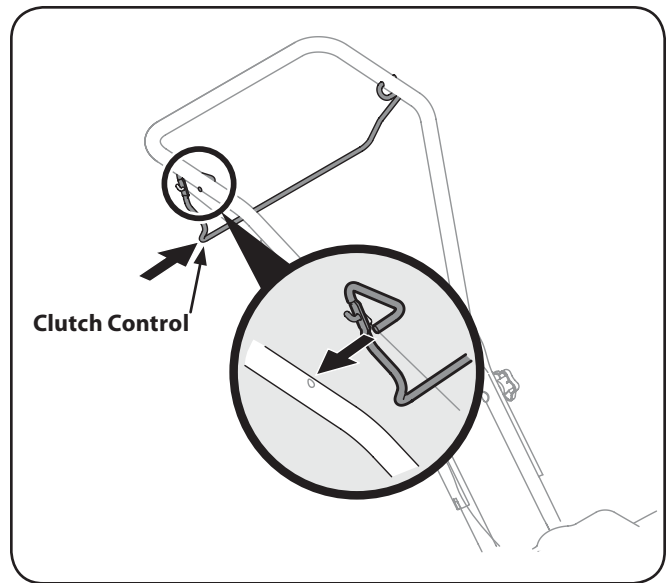

Figure 3-5
6. Squeeze the tine clutch control inward. Insert the right end into the hole on the right side of the handle. See Fig. 3-5.